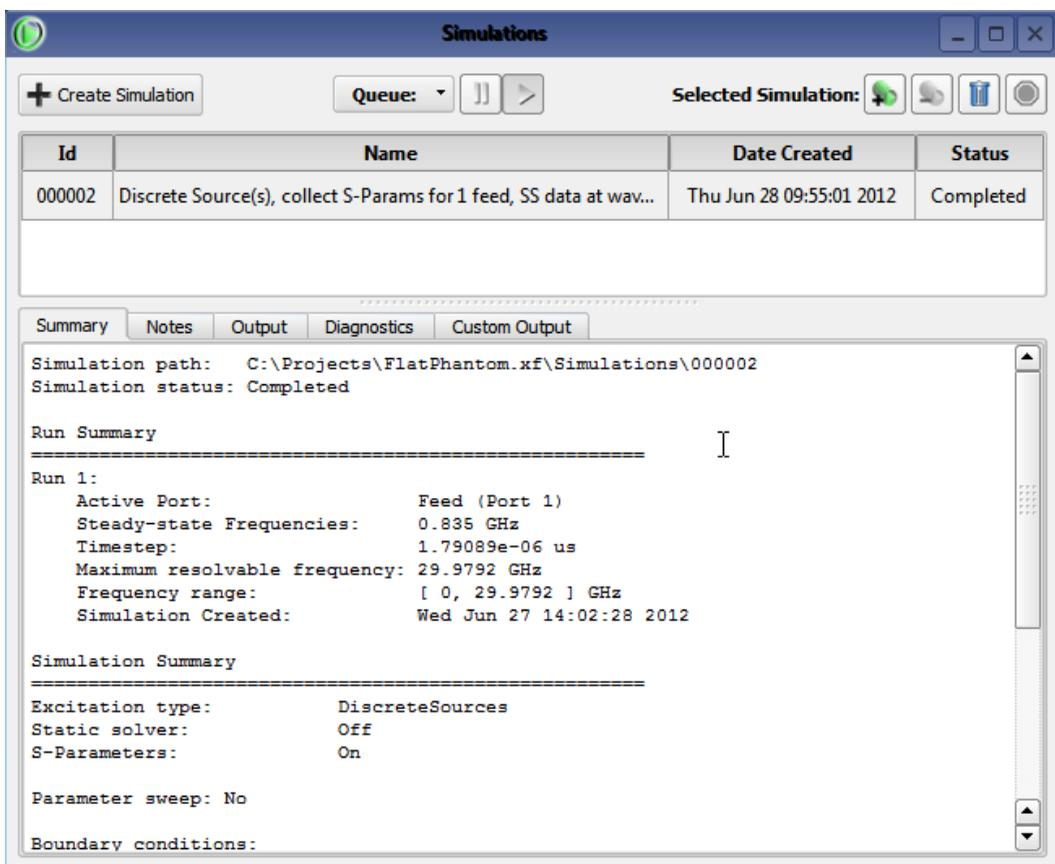

Figure 11.16: Running a calculation
After defining the necessary components of the simulation in the **+CREATE SIMULATION** dialog described above, click the **CREATE AND QUEUE SIMULATION** button and the main window will show all of the queued and completed simulations as seen in Figure 11.16. Only one simulation can be run at one time, so as soon as a calculation is complete, another queued simulation will begin.
- **SUMMARY**, where a basic summary of the simulation is provided, as seen in Figure 11.16.